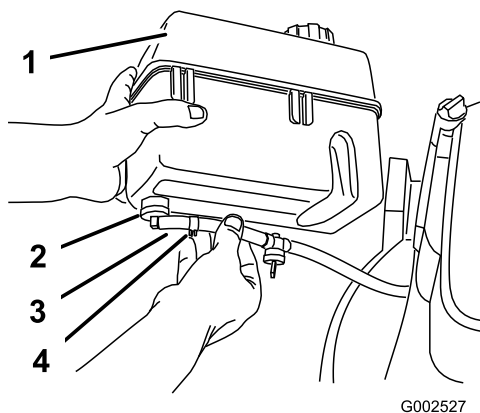

Figure 4
1. Slide the end of the fuel line onto the elbow fitting (Figure 4).
2. Secure the fuel line in place with the fuel line clamp (Figure 4).